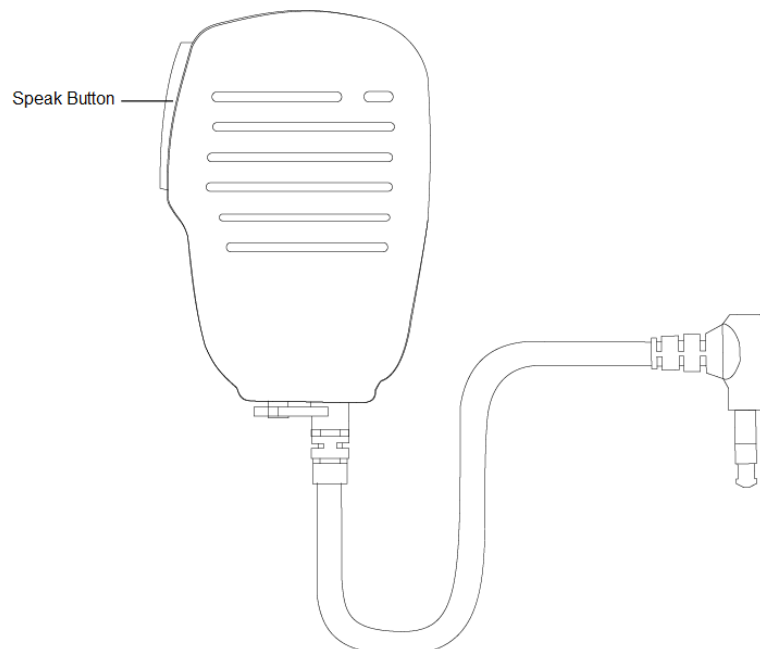

Figure 4-5
Step 3 Press the “Speak Button” of handheld microphone to speak, as shown in Figure 4-5. Live broadcasting PTZ will play the audio in a real-time way.